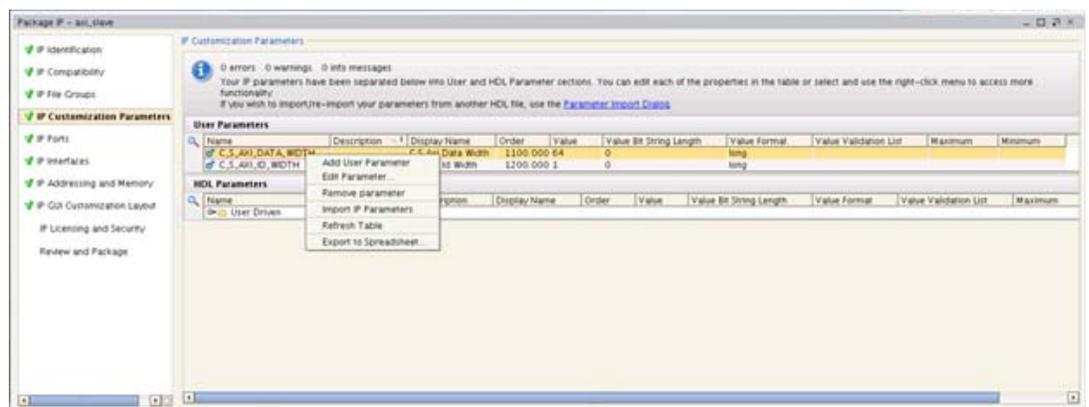

Figure 22: IP Customization Parameters for AXI4 Slave IP, C_S_AXI_DATA_WIDTH
2. Select the C_S_AXI_DATA_WIDTH value in the table. Right-click and select **Edit Parameter...** (Figure 22)